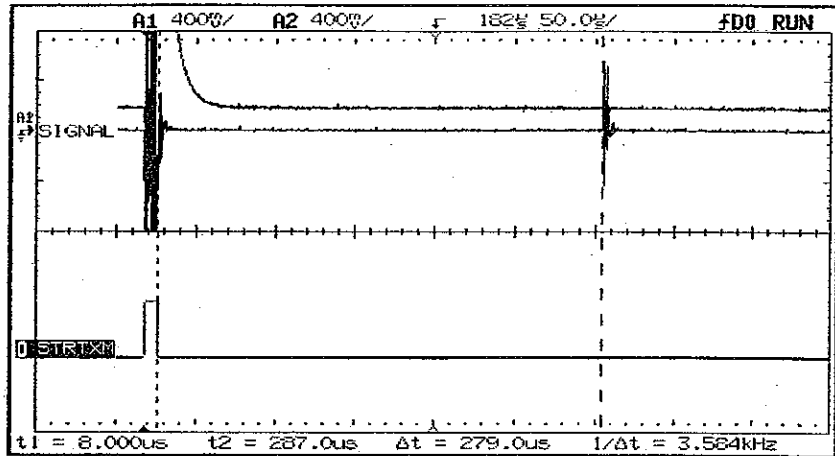

Figure 72
14. Verify that there is an echo (>180mV) pulse \approx 279 μ s past the falling edge of STRTXM (see Figure 72).